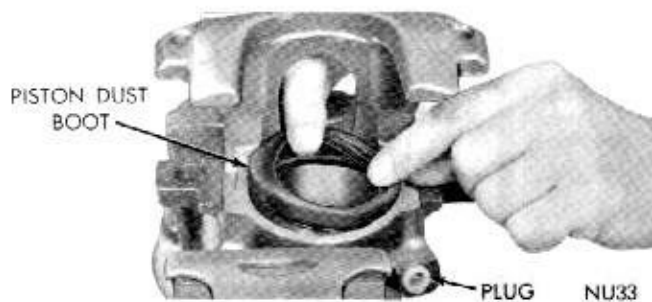

Fig. 16—Installing Piston Dust Boot
(3) Coat new piston boot with lubricant (as specified above) leaving a generous amount of lubricant inside of boot. Install in caliper by working into outer groove, using fingers only. (Boot will seem larger than diameter of groove, but will snap into place when properly positioned in groove. (Fig. 16). Using a forefinger, slide around inside of boot to be sure it is seated, or correctly installed.
(4) Plug high pressure inlet to caliper and bleeder screw hole, then coat piston with a generous amount of lubricant (as specified above). With fingers spreading boot, work piston into boot and press down on piston. (The entrapped air below piston will force boot